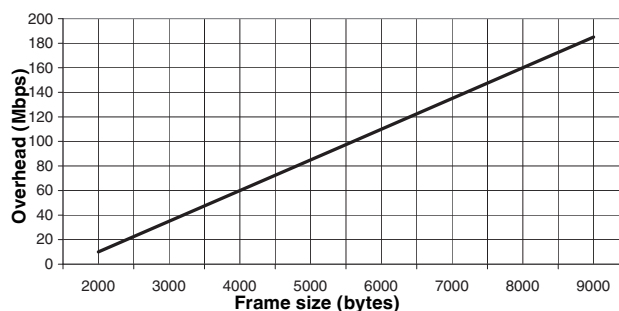
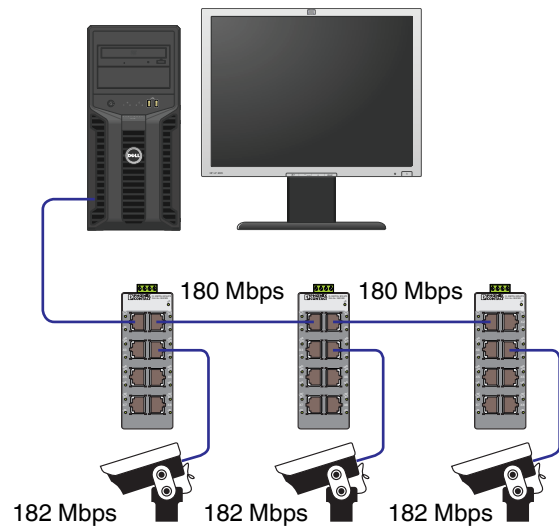

Figure 13 Overhead/cascaded switch vs. frame size
Figure 14 9000-byte frame size example
3. Determine the traffic load for bandwidth consumed by application overhead and pause frames (see Figure 13). After the first switch, add this amount for each additional switch segment.
Figure 14 depicts an example with three cameras connected to individual switches. Each camera is configured for an **8 bits per pixel** color depth, creating a load of **182 Mbps** per camera (see Table 1) with a total traffic load of **546 Mbps**. Frame size is configured to 9000 bytes creating an overhead of **180 Mbps** (see Figure 13) for each cascading switch for a total of **360 Mbps**.